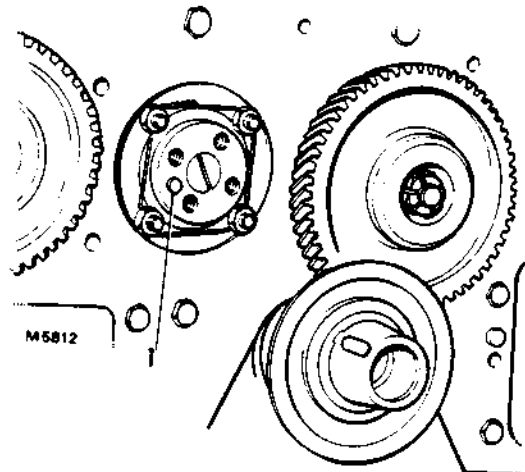
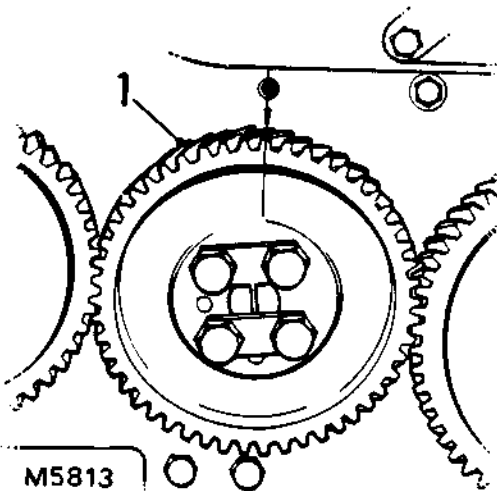

FIG. 8. GEAR LOCATION DOWEL IN CAMSHAFT END
FIG. 9. CAMSHAFT TIMING MARKS
6. Remove four setscrews and locking plates securing gear to camshaft and withdraw gear, taking care to note position of timing mark on gear in relation to mark on timing back plate when No. 1 piston in on T.D.C. of firing stroke, Fig. 9.
4. Fit the camshaft gear to engage with the idler gear when the dowel (Fig. 8) in the camshaft end and the arrows on the camshaft gear face and timing backplate are in line (Fig. 9).